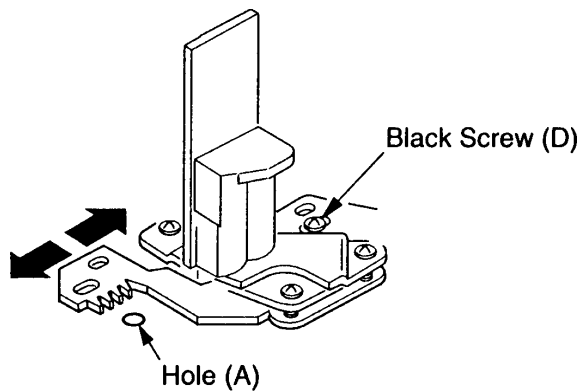

Fig. 13 - A/C Head Horizontal Position Adjustment/Confirmation
**A/C Head Horizontal Position Adjustment/Confirmation (Figs. 13, 14)**
5. If adjustment is necessary, slightly loosen the black screw (D) (Fig. 13). Insert the H-position adjustment screwdriver into hole (A) and adjust slightly in both directions to find the point of maximum envelope.
9. If the number of button presses in steps six (6) and eight (8) are not equal, slightly readjust using the H-position adjustment screwdriver (hole A) and then repeat steps six (6) through eight (8).
10. Tighten the black screw (D) and remove the jumpers.